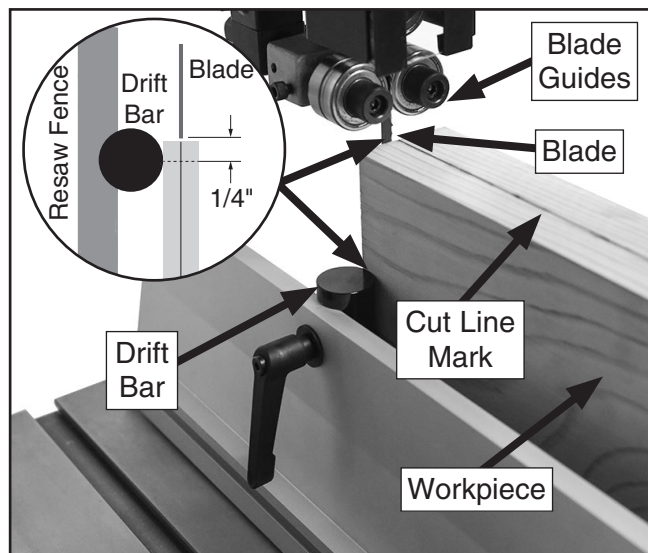

Figure 3. Workpiece positioned to cut using resaw fence with drift bar.
1. Mark reference cut line along top of workpiece (see **Figure 3**).
2. Lower bandsaw blade guides as close to workpiece as possible (see **Figure 3**).
3. Adjust resaw fence so blade aligns with mark made in **Step 1** and center of drift bar is set $\frac{1}{4}$ " forward of blade teeth (see **Figure 3**).